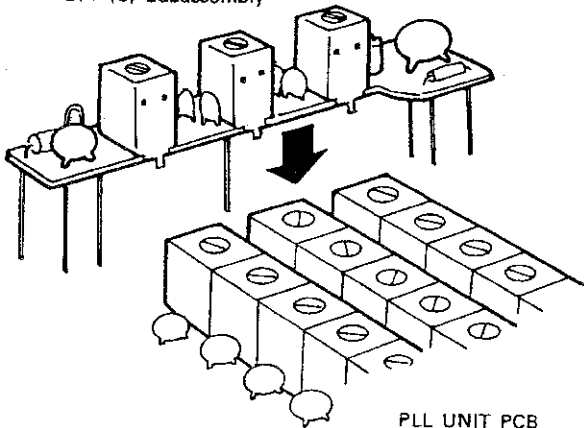

Fig. 8
- Straighten the leads from the BPF subassembly and install this unit to the board (**Fig. 8**). Clip excess leads flush to the board.